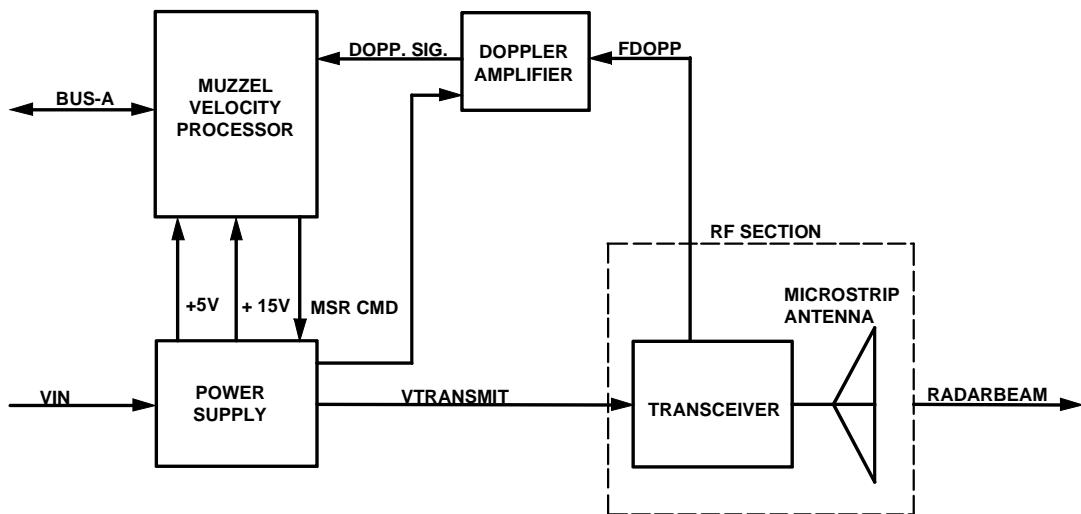

Figure 1-3. Transceiver Assembly Simplified Block Diagram
1.19.1 General Description. For the following description, refer to Figure 1-3. The transceiver is divided into four main subassemblies: